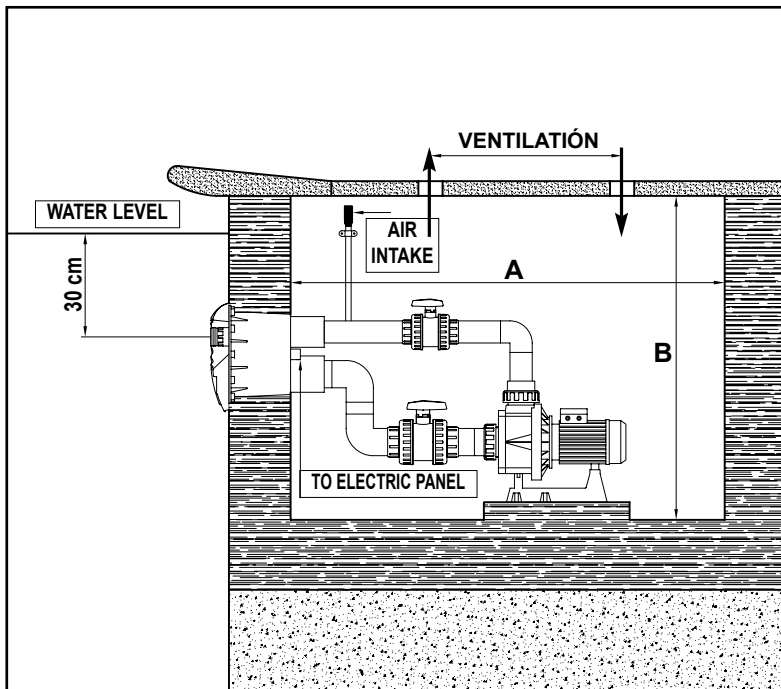

Fig. 8
**10.1** Before installing the HIDROJET, equipment it is necessary to take into account the dimensions of the housing in which it will be located. You should check to ensure that you will not have space problems when installing the pump. To do so, check the minimum clearances needed for the installation, as shown in the table and in Figure 8.